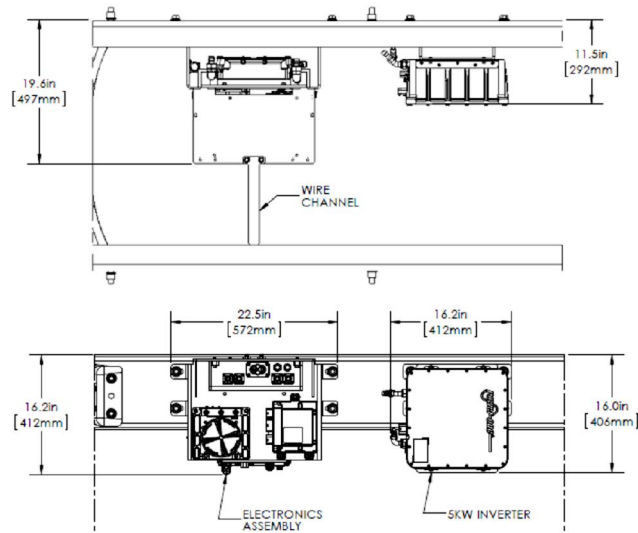

Figure 6. Electronics assembly and exportable power inverter
- Contains HCU, DC/DC converter, PDM and HVJB (Figure 6).
- Located inside the frame on the curbside or street side frame rails (Figure 6).